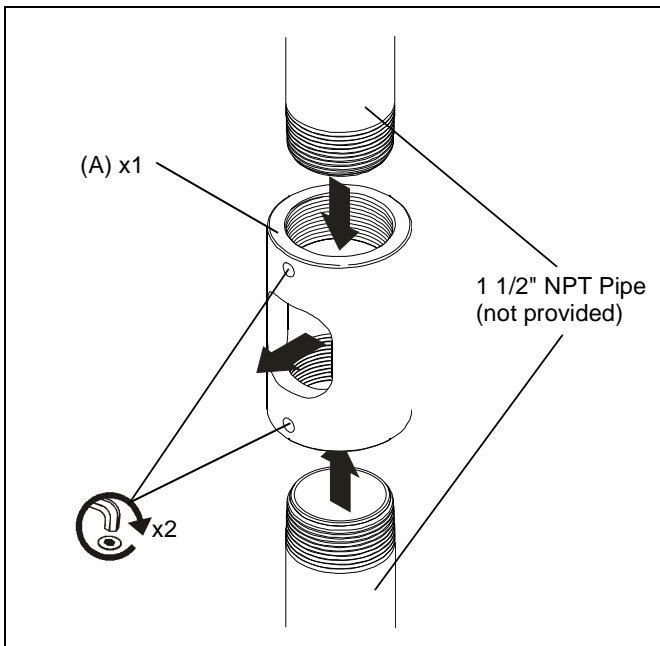

Figure 1
1. Thread coupling onto 1 1/2" NPT pipe making sure opening in coupling is facing in the desired direction of outlet. (See Figure 1)